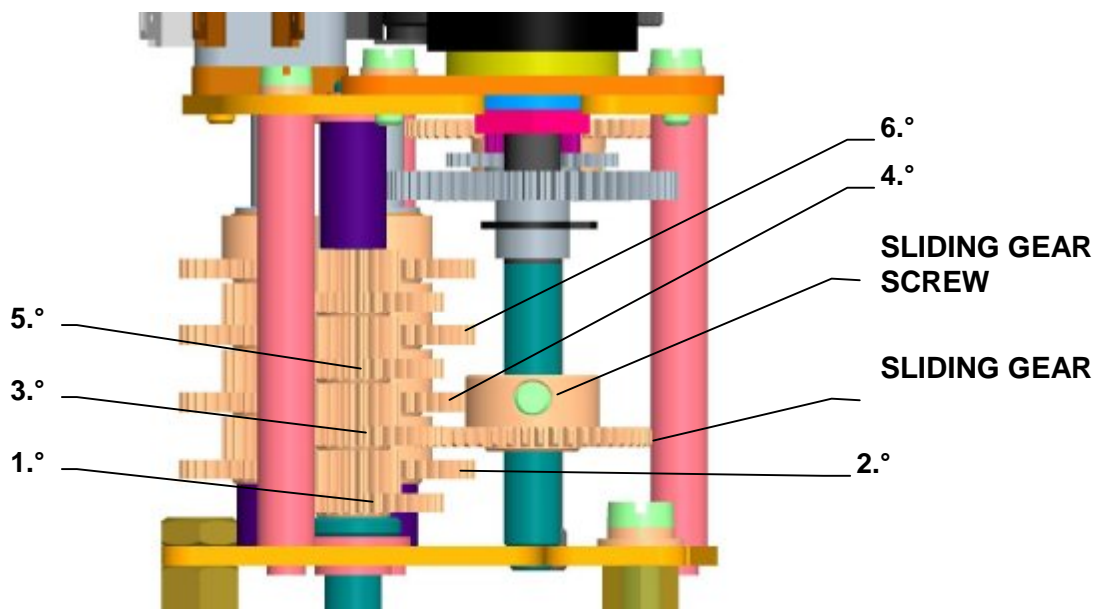

Fig.3c
- Move the sliding gear about requested degree of the range according to the Table No. 5a and Fig. 3c by loosening the screw of the adjustable gear and tighten it after being set in the correct position. While adjusting the adjustable gear be careful that it meshes correctly with the gear of the given degree.